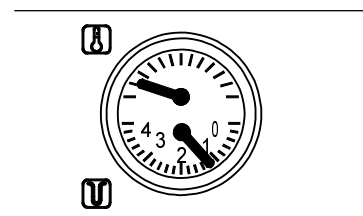
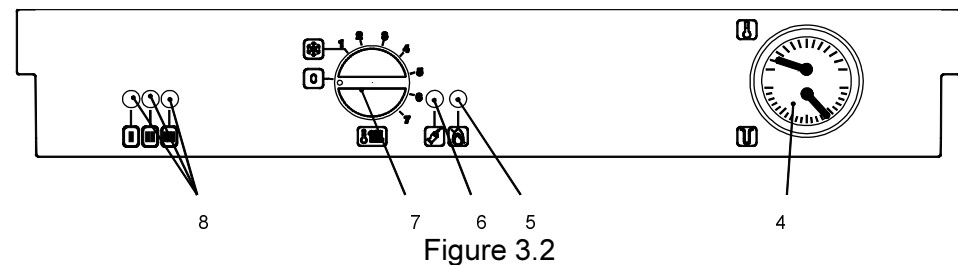

Figure 5.1
Figure 3.2
- The temperature and pressure gauge (Fig. 5.1 on page 12) will allow you to check that the set temperature is obtained.
- Ensure that the Central Heating circuit is regularly filled with water checking that the pressure indicated on the temperature and pressure gauge (4 on figure 3.2) is not lower than 1 bar (14.5 psi) as shown on figure 5.1.
Three lights (8 in Fig. 3.2) give detailed indication regarding the operation of the boiler. The following table gives the relationship between each of the possible light combinations and their meaning.